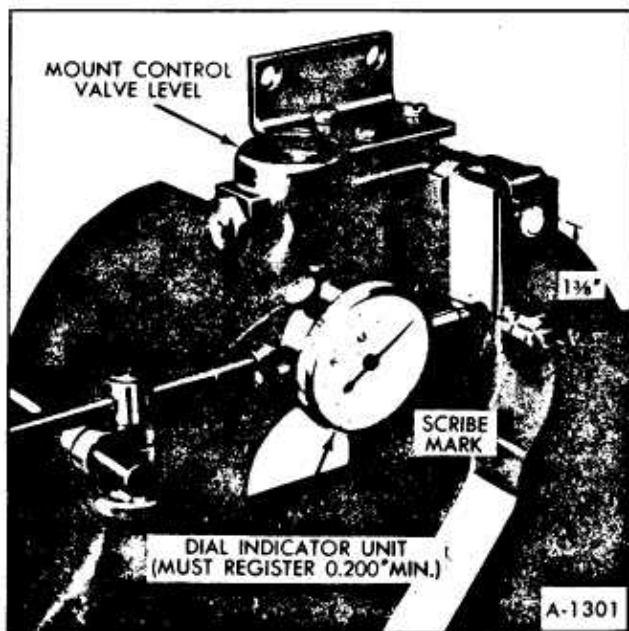
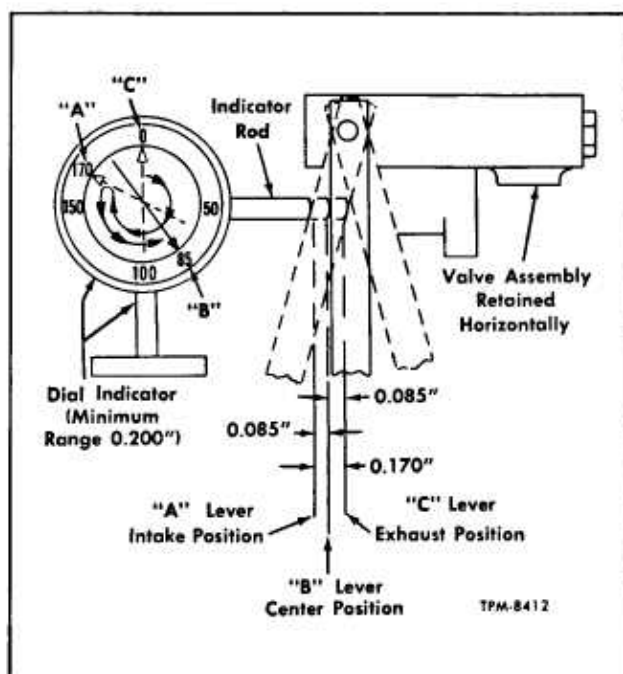

Figure 31—Dial Indicator Properly Installed
Figure 32—Locating Valve Overtravel Lever Center Position
4. Referring to Figure 31, scribe a line 1-3/8 inch from plug end of overtravel lever control body.
8. Locate dial indicator in position as shown in Figure 31. Move overtravel lever to full air exhaust position - TOP OF DELAY PISTON FLUSH WITH TOP OF BORE - without overtraveling (position "C," figure 32). Relocate indicator push rod to just contact 1-3/8-inch mark on control body and reset indicator dial to zero (0) at this point (position "C", figure 32).
9. Move overtravel lever to full air intake position without overtraveling (position "A", figure 32) (delay piston at bottom of bore). Take indicator reading which may vary from 0.160" to 0.190".
11. Divide the total travel dimension by two (example:  $0.170" \div 2 = 0.085"$ ), then move overtravel lever back this amount (0.085") to the center (position "B," figure 32).
**IMPORTANT:** Without disturbing lever center position, reset indicator dial to zero (0), which actually is 0.100" on indicator of type registering